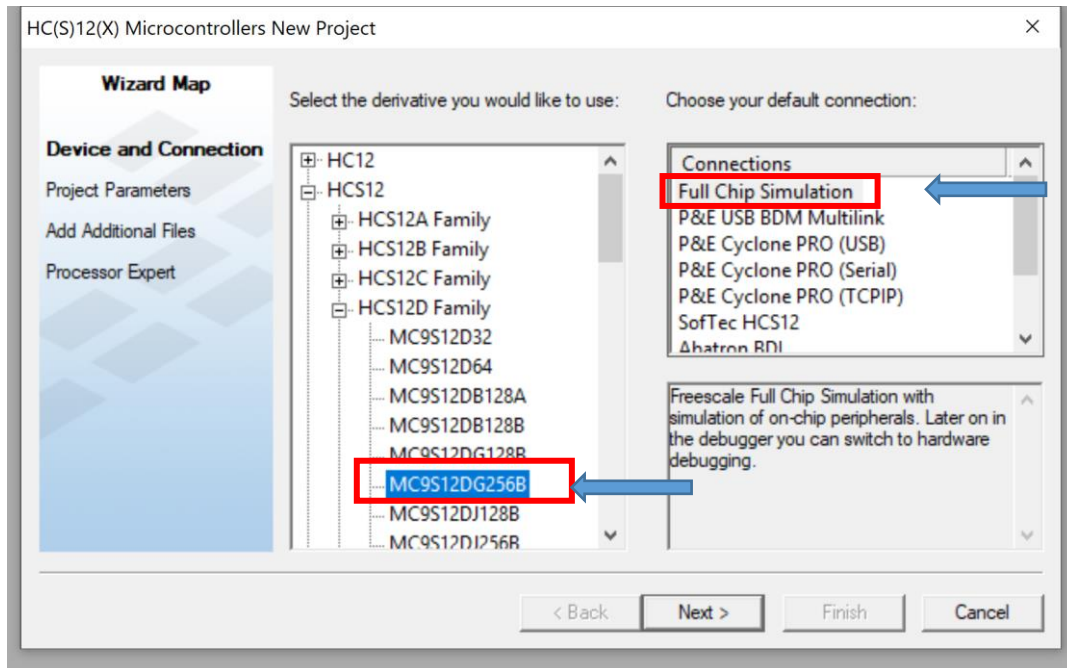

Figure 1.
2. In the HC(S)12(X) Microcontrollers New Project wizard window, select "**HCS12**" → "**HCS12D Family**" → "**MC9S12DG256B**" as shown in Figure 1.